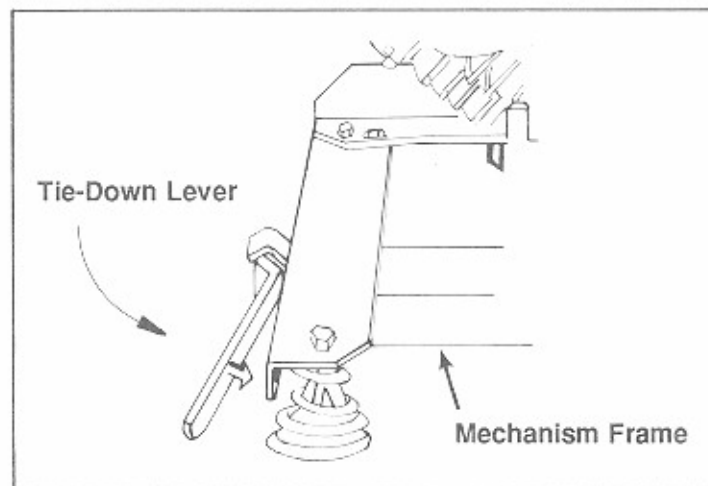

Figure 1-4. CD Changer Tie-Down Levers
2. Remove the shipping tape from the front ends of the mechanism tie-down levers on the side of the mechanism frame (see to figure 1-4).